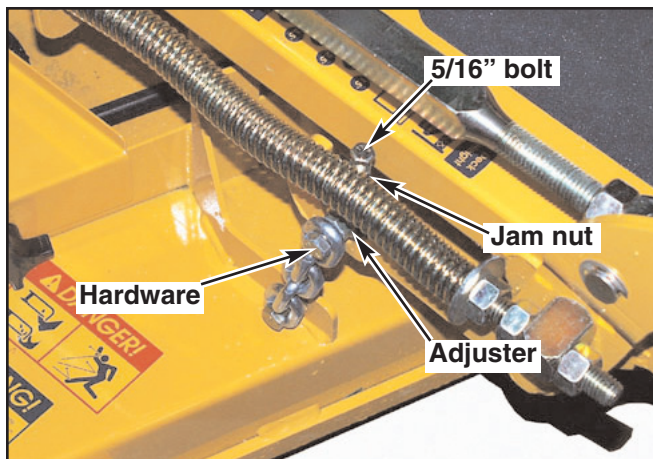

Figure 11-37
17. Tighten the adjuster bolt jam nut to prevent the adjuster bolt from moving. Fig. 11-37